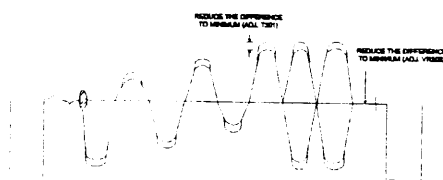

Fig 5.
- 4: Adjust T301 and VR302 to obtain waveform as in fig. 5.